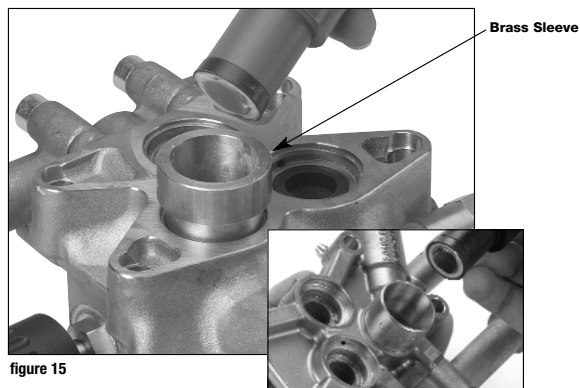

figure 15
- Put installation tool into sleeve and press until seal pops into place. (figure 15)
- Remove tool and then remove sleeve. (inset figure 15)